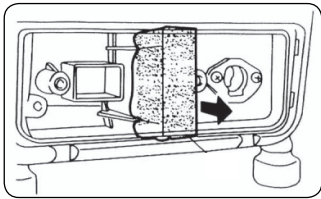

FIGURE 9.1
- A.** Remove the filter lid and then remove the filtering element. Figure 9.1.